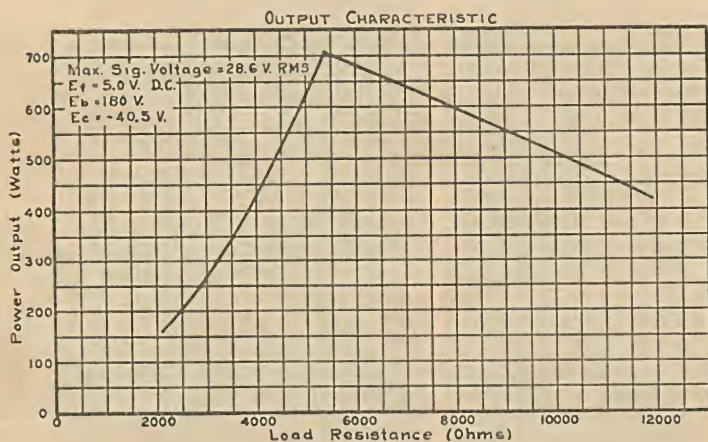

Fig. 15
**Output Characteristic**—Fig. 15 shows the undistorted power output obtainable at various load resistances.